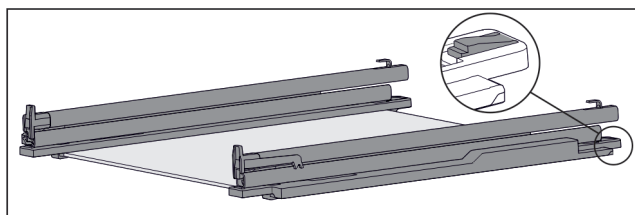

Fig. 116 Glass shelf with rails and retaining parts
- Press down retaining part at the rear (see Fig. 116) and at the same time push the rail back.